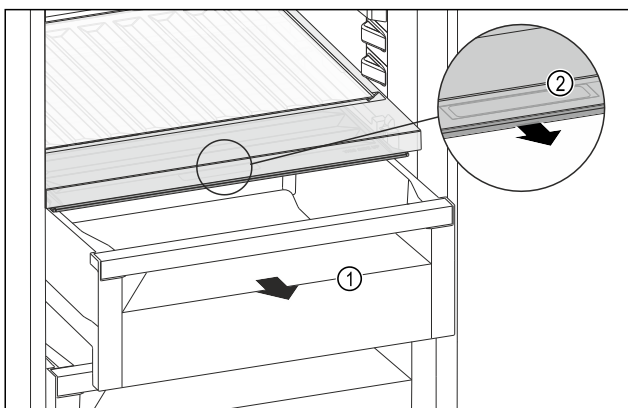

Fig. 240
- ▶ Pull out the drawer Fig. 240 (1).
- ▶ Grasp the recessed grip Fig. 240 (2) on the compartment lid and pull the compartment lid forwards at the same time.